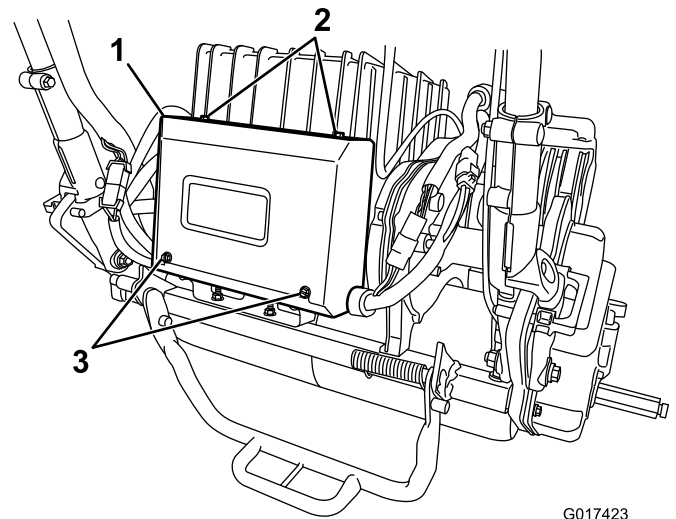

Figure 36
2. Remove the 2 rear screws from the electrical box and loosen the 2 upper screws then remove the box cover (Figure 36).